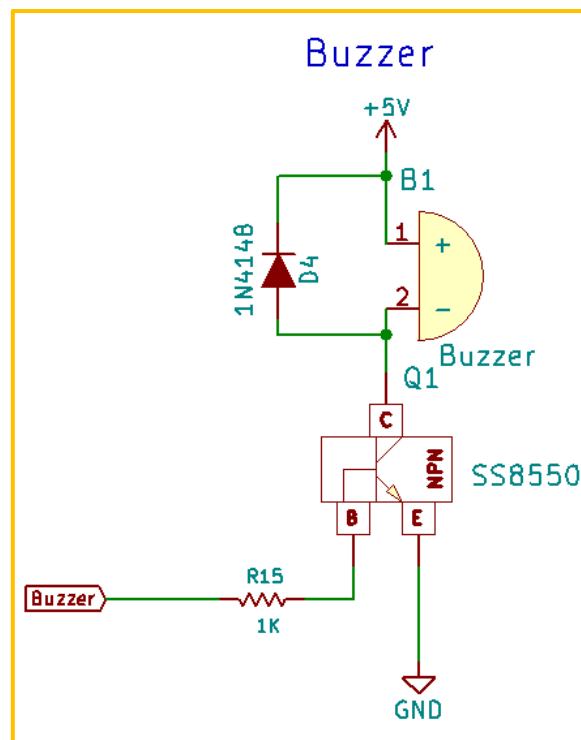

Figure 9-2 Buzzer schematic
**Load File-> Lesson\AdvancedExperiment\Buzzer\Buzzer.ino**) After burning the sample program, turn on the power switch and the buzzer plays music. The schematic diagram of the buzzer is shown in Figure 9-2. Show.